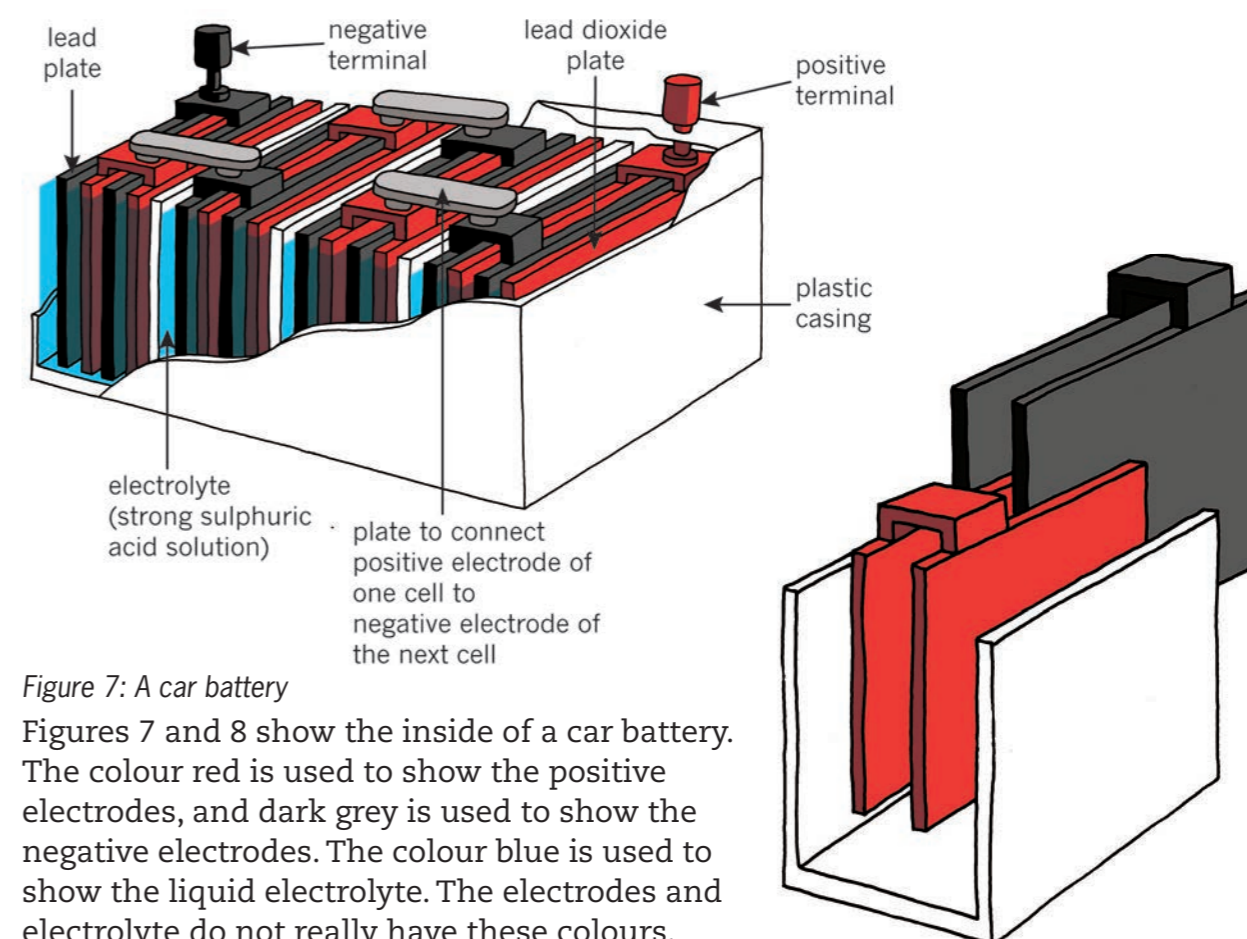

Figure 7: A car battery
Figures 7 and 8 show the inside of a car battery. The colour red is used to show the positive electrodes, and dark grey is used to show the negative electrodes. The colour blue is used to show the liquid electrolyte. The electrodes and electrolyte do not really have these colours. Everything inside a battery looks mostly grey.
A car battery has six cells and it can give energy at 12 volts. To keep the diagram in Figure 7 simple, only four cells are shown.
1. What kind of diagram is Figure 7?